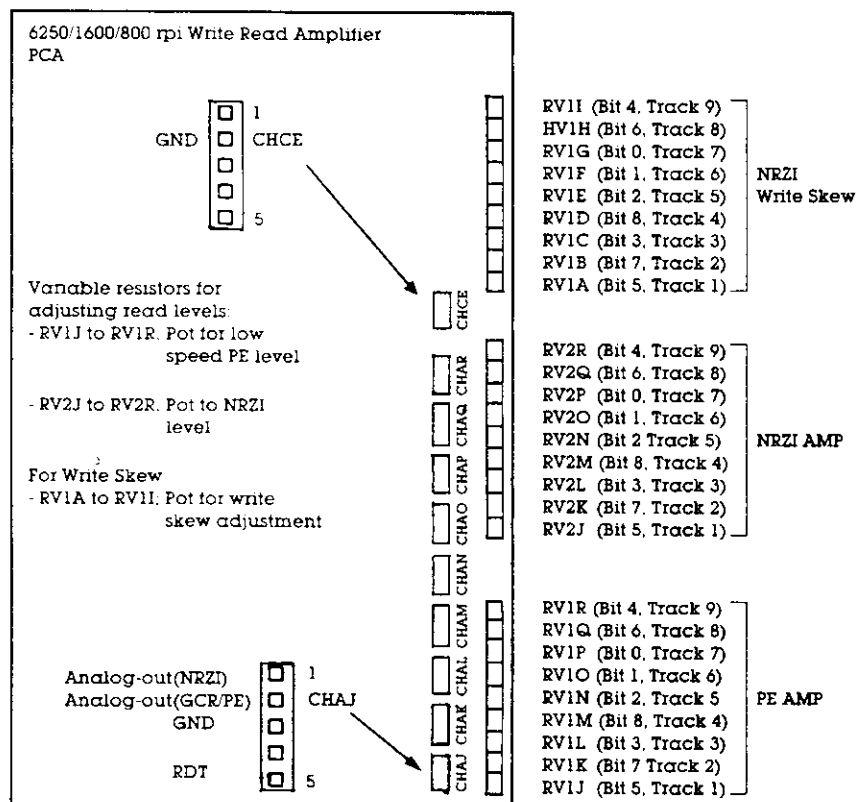

Figure 1 Variable resistors and check terminals for 6250/1600/800 rpi
Mounting position of check terminal and variable resistors, is shown in Figure 1.
4. Mounting position of check terminal and variable resistors is shown in Figure 1.